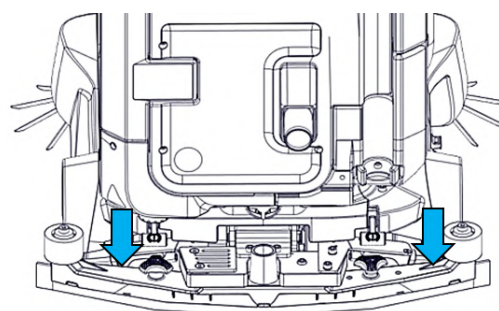

FIGURE 11-4
2. Remove the hose and push down on the squeegee assembly (**Fig. 11-4**).